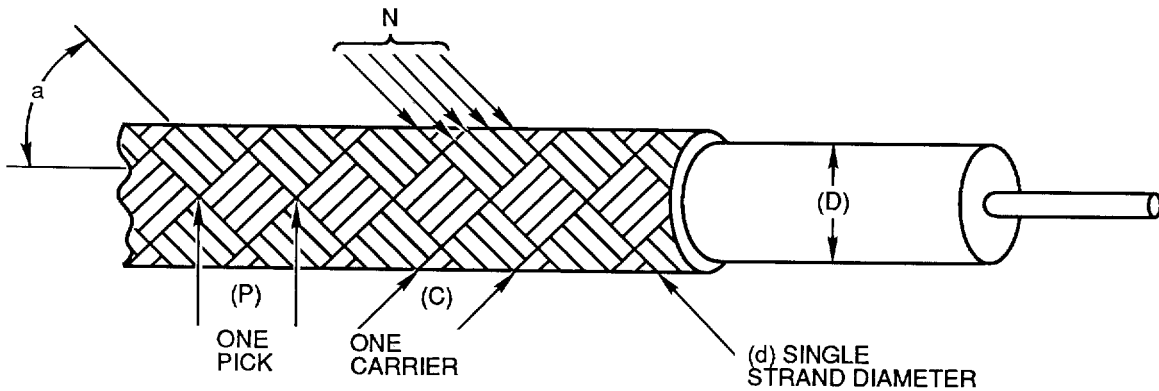

Figure 3. Shield-Constructional Details
25. **Number of Ends Per Carrier.** Generally four to seven are used per carrier. The number of ends effect attenuation and push back characteristics (Figure 3, Item N).
by the shield strands and the axis of the cable (Figure 3, Item P).
28. **Diameter of Individual Shield Strands.** This can be located in individual specifications. Generally size 36 or 34 AWG is used but can be as small as 40 AWG or as large as 28 AWG depending upon intended use (Figure 3, Item d).
necessary depending upon intended use (Figure 3, Item C).